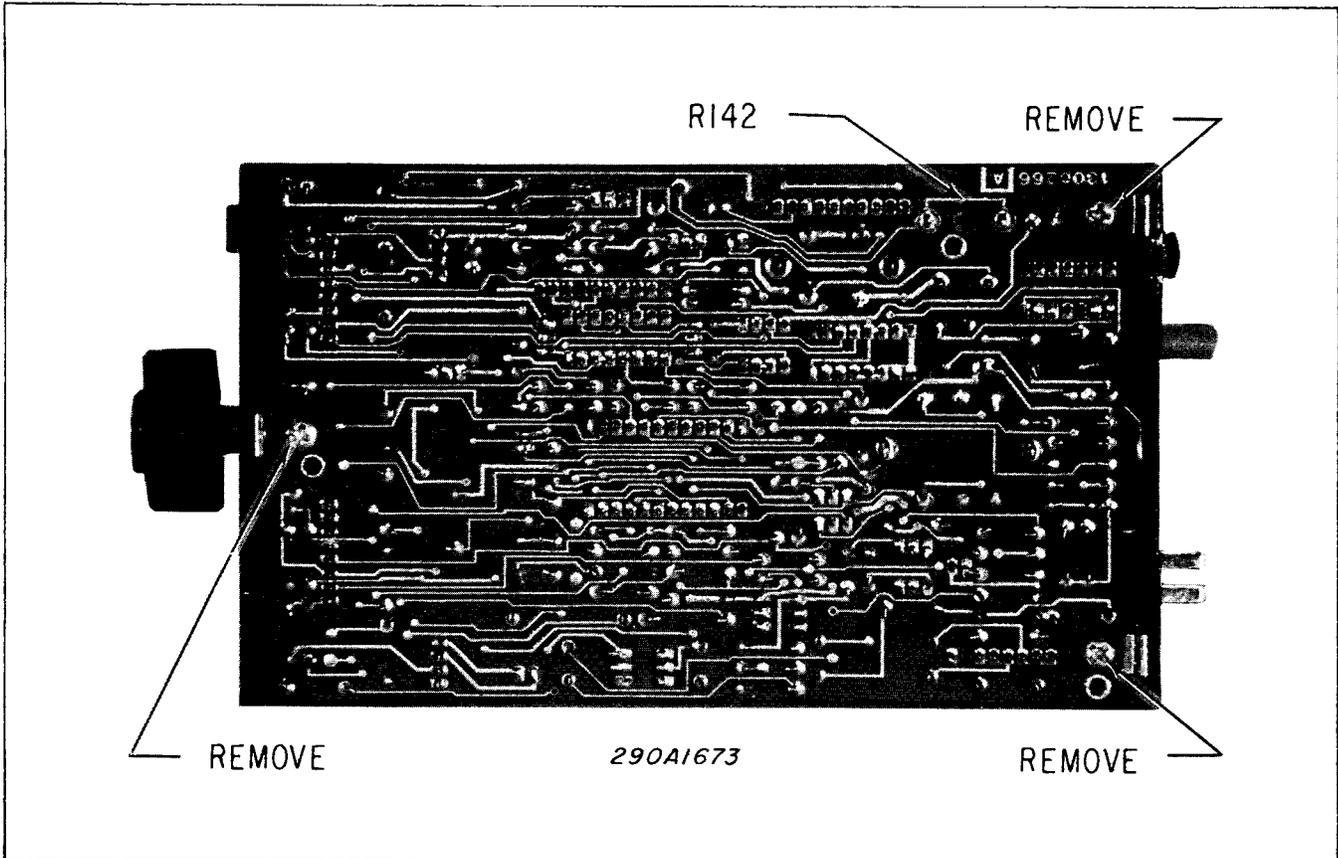

Figure 6-1 Siren Module Printed Circuit Board Removal
1. To remove the Main Circuit Board remove the three screws that hold the board in the Siren (see figure 6-1). Disconnect the two connectors at the rear of the board and lift the board out of the chassis. Also be sure that the two plugs on the front of the circuit board mate properly with sockets on the Front Circuit Board.